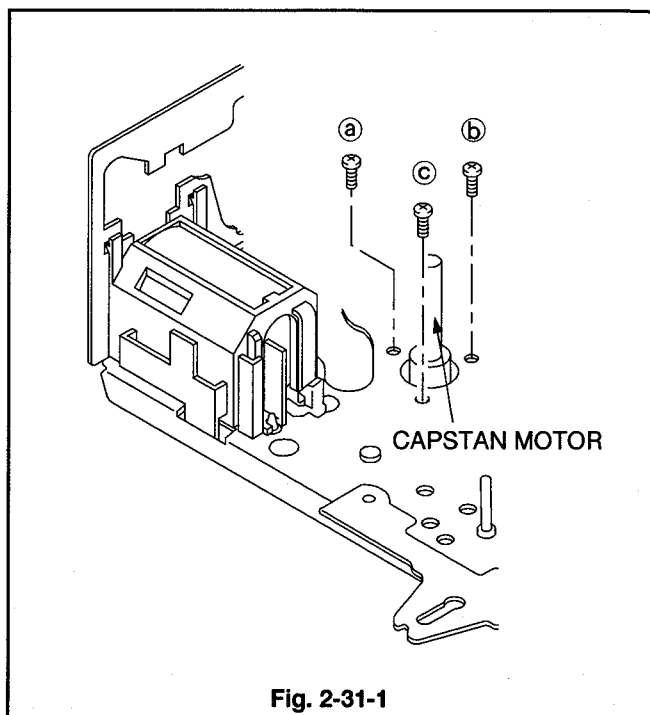

Fig. 2-31-1
- 1 Unscrew the three CAPSTAN MOTOR fastening screws (a, b and c) shown in Fig. 2-31-1 to remove the CAPSTAN MOTOR.